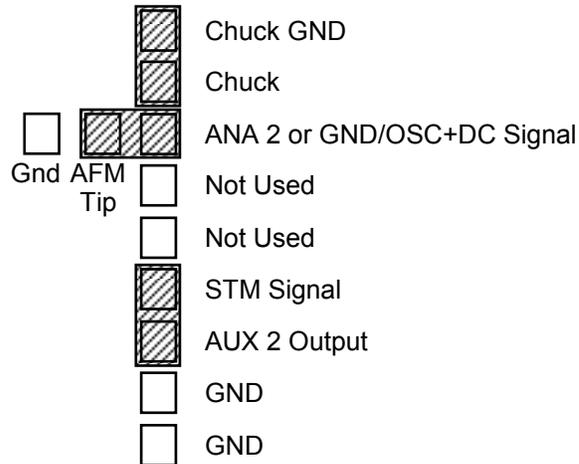

Figure 2
There is one set of jumpers on the circuit board inside the rear cover of the AFM. These jumpers must be set a certain way in order to direct the **ANA2** input BNC of the **Signal Access Module** to the AFM cantilever. The chuck should be grounded to prevent it from injecting noise into the measurement. Figure 2 below shows the jumper settings used. Please refer to the NanoScope system manual when changing the jumpers.
3. The AFM jumpers must be set according to Figure 2 above.